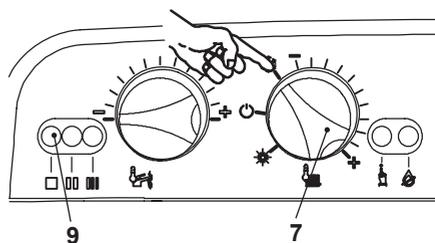

Fig. 2.4
- Turn on the electricity supply to the boiler switching on the fused spur isolation switch. The appliance operation light 9 (Fig. 2.4) will flash every 4 seconds (stand-by condition).
- To operate the boiler, position the function selector 7 as in Fig. 2.4. The appliance operation light 9 will flash every 2 seconds (operating boiler).